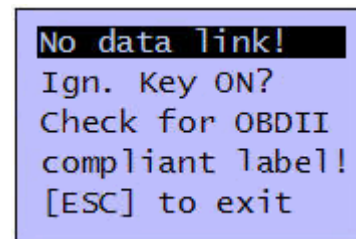

Figure 10
8. If the Scan tool fails to link up with the vehicle's computer, it will show a message as displayed on the LCD screen: (Figure 10)